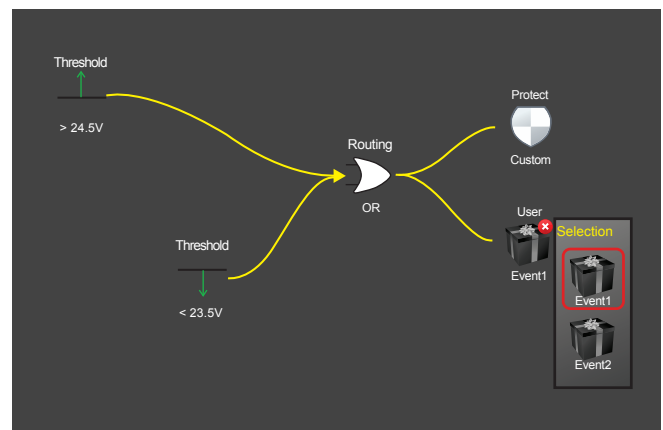

Figure 9. Configuring a trigger expression with the N7906A Power Assistant software
- Perform trigger routing and configure logical trigger expressions (see Figure 9)